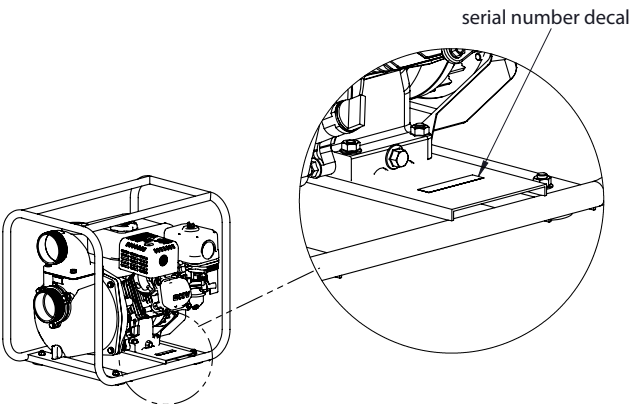

Figure 1
Record the model number and serial number in the space provided for easy reference (**see serial number location in figure 1**). Warranty is valid only if the completed registration is received by Earthquake within 30 days of purchase. You can register your warranty online by visiting www.getearthquake.com. If you do not have a computer, call our customer service department at (800) 345-6007 Monday through Friday from 8 a.m. to 5 p.m. CST.